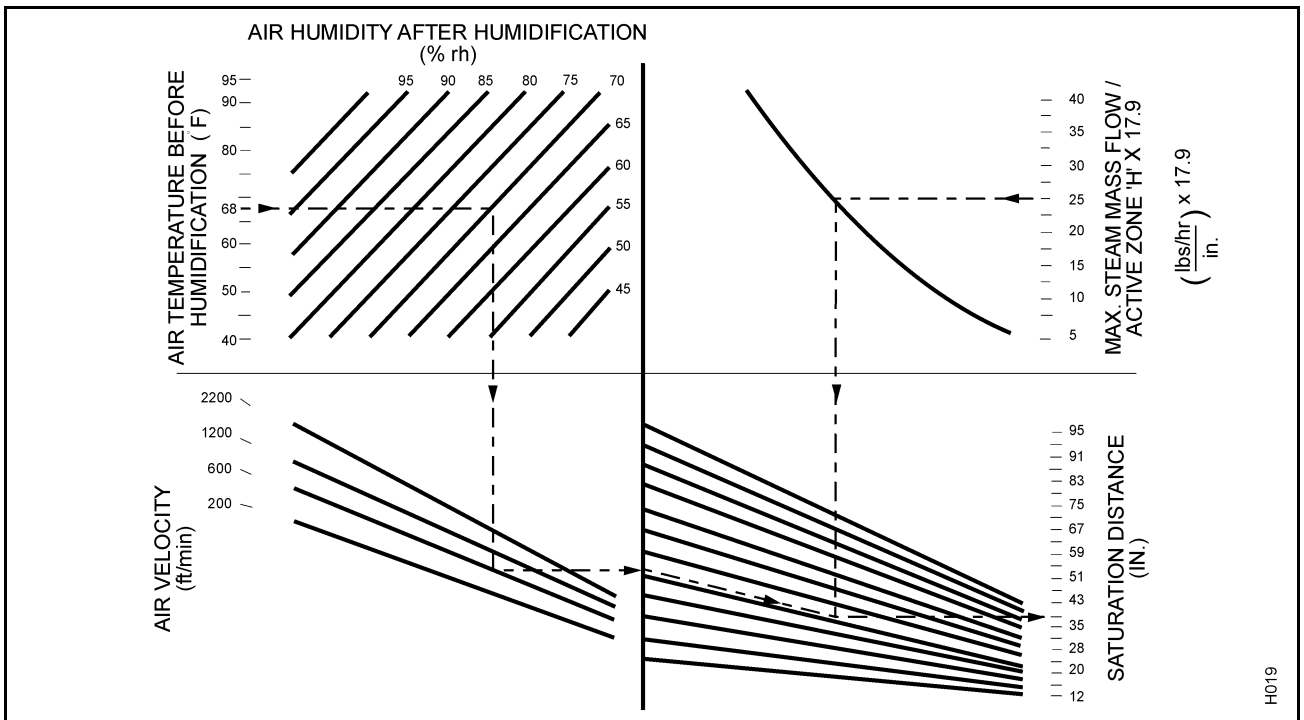
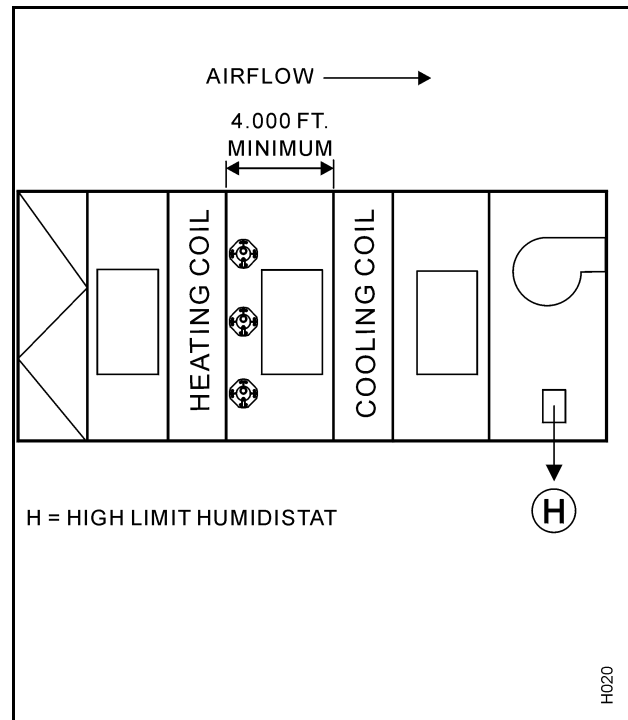

Figure 13. Humidification Distance Nomogram
Figure 14. Best Location for Multiple Steam Distributors in AHU
- (1) The use of multiple steam distributors can reduce the absorption distance in most situations. Distributors can be manifolded together to create a grid to achieve shorter absorption distances. (Consult agent and/or see Nomogram Figure 13.)
- (1) Humidify after the heating coil (H/C) so that absorption will occur in the 3 to 4 feet before the cooling coil (C/C). If steam carries over and condenses on the coil, any excess water will be drained away. There is little chance of condensation on the blower, blower motor, or fan isolation components, especially if you use a modulating high limit humidistat. All steam distributors should be 8" from the H/C and evenly spaced. If wetting is a problem, add more steam distributors. (See Nomogram Figure 13 and Figure 14).
- (1) The water vapor discharged from the steam distributor must be adequately mixed with air to prevent condensation on downstream components. The nomogram in figure 13 will
- (2) If the 'Saturation Distance' for one steam distributor is not sufficient, add more steam distributors until the minimum saturation distance is attained. (See Figure 13.)
- (3) To determine the number of distributors required, complete the following list:
- (e) Active zone H of steam distributor _____ in. (See Figure 13.)